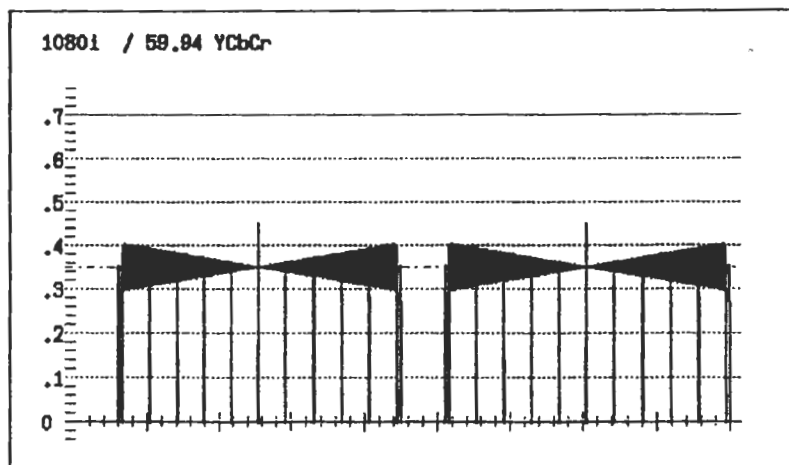

Figure 6.5 Timing Display
Timing display shows two bowtie displays side by side as shown in Figure 6.5. The conditions of CH1, CH2, and CH3 ⑫ are ignored.